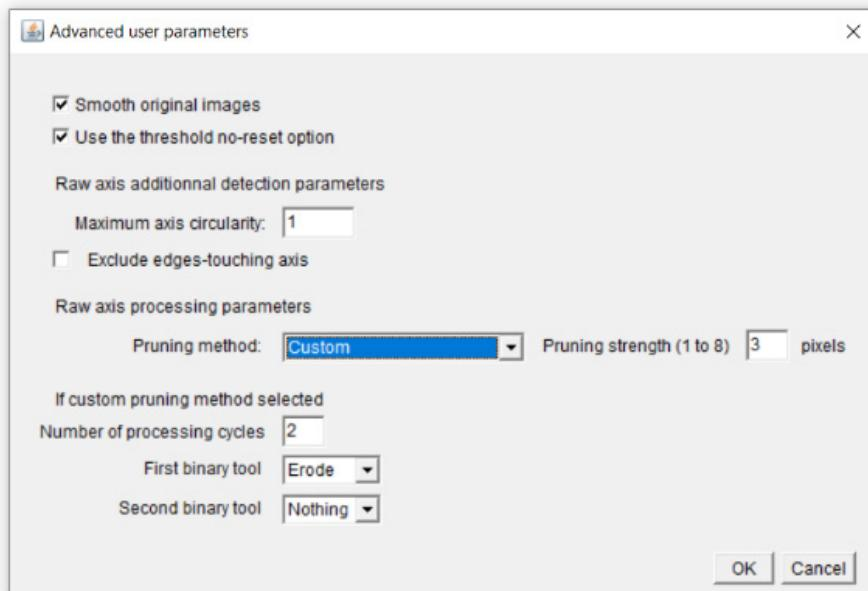

Figure 4.3. The Advanced user parameters menu
STEP 2. Set the ROI that will be used for further measurements. If the “user-defined ROI” is selected, then the companion .roi file generated during the stage-cropping step will be used. If this file is not found, some error message is displayed. The other possibility is to use an intensity threshold. The macro refers to “nucleus” threshold as most of the time, the channel used for the threshold is based on some nucleus staining. This can be however used for any other staining. If using this “nucleus threshold” mode, set the channel used for threshold (the first channel is channel 1), then select the adequate threshold algorithm. The list can be expanded to all available ImageJ built-in automatic thresholds by clicking on “Set measurements parameters” and tick the display the full list of threshold methods options” (figure 4.3). This user-defined or nucleus ROIs is referred as “reference ROI” below.
OPTIONAL STEP B. Advanced user options can be used to get accurate axis detection. This is very useful for either noisy images and/or superresolution images. Whenever the “Use advanced user option” is chosen, the “Advanced user parameters” window will pop up at **STEP 7** (figure 4.3).